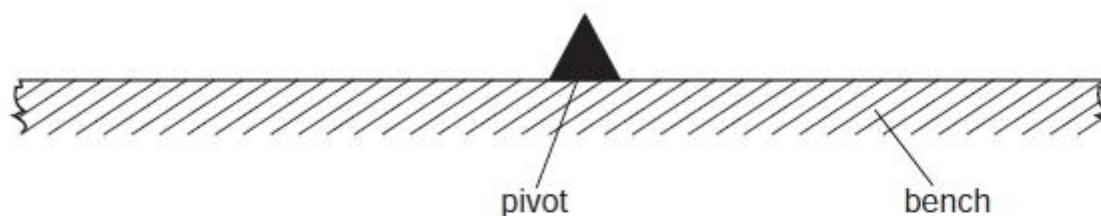

Fig. 5.1
He uses a pivot on a bench as shown in Fig. 5.1.
- (a) Draw on Fig. 5.1 the metre rule with load Q on it. [2]